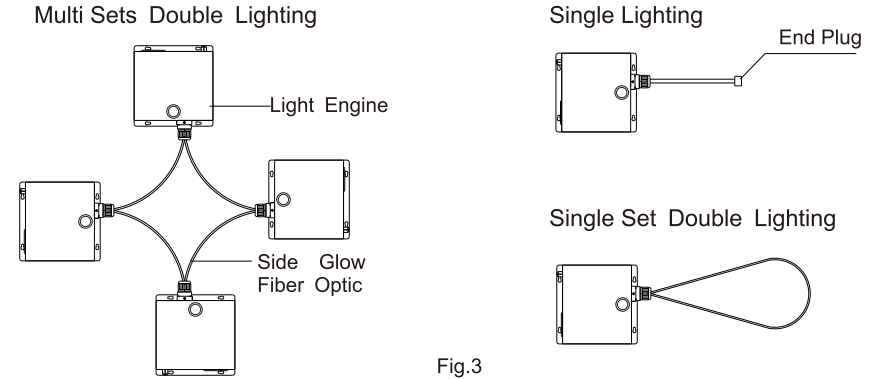

Fig.3
- (1) Side Lighting Fiber Optic:(See Fig.3).